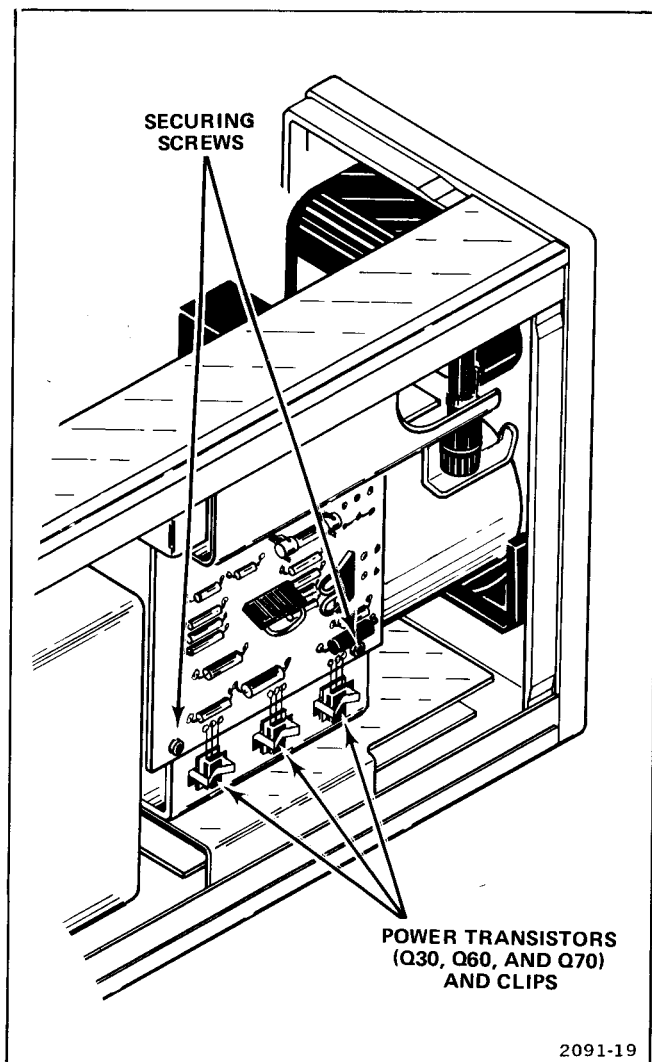

Figure 5-5. A5—Low-Voltage Power Supply board removal and replacement.
**LOW-VOLTAGE POWER SUPPLY BOARD—A5.** Remove and replace the Low-Voltage Power Supply board as follows (see Fig. 5-5):